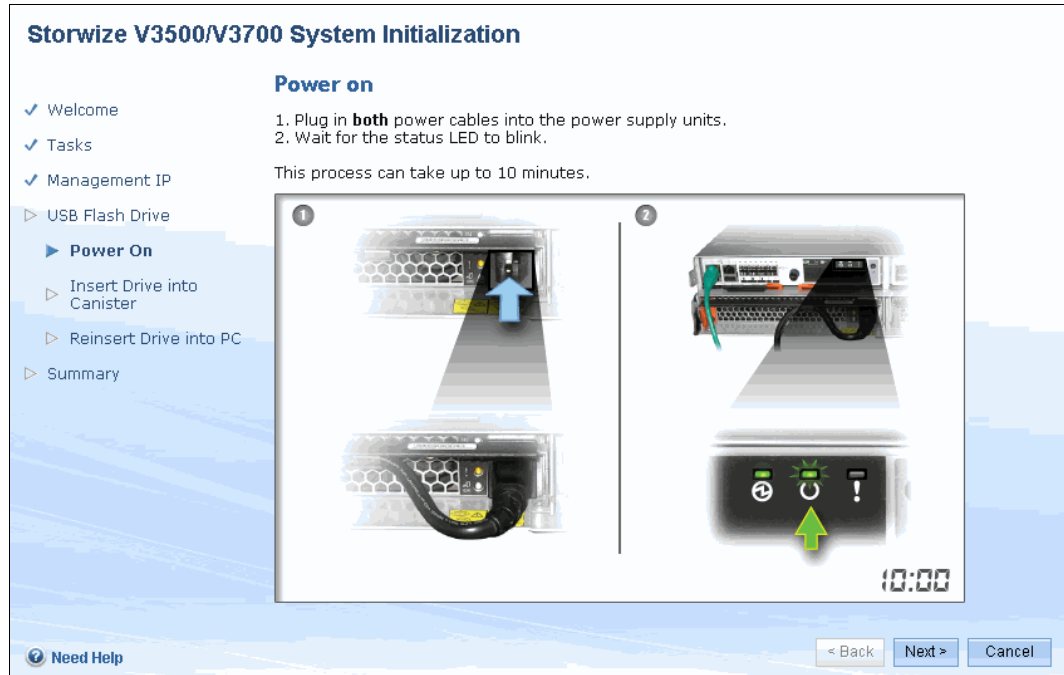

Figure 2-12 Initialization application: Storwize V3700 Power up
- Click **Apply and Next** to show the IBM Storwize V3700 power on instructions, as shown in Figure 2-12.